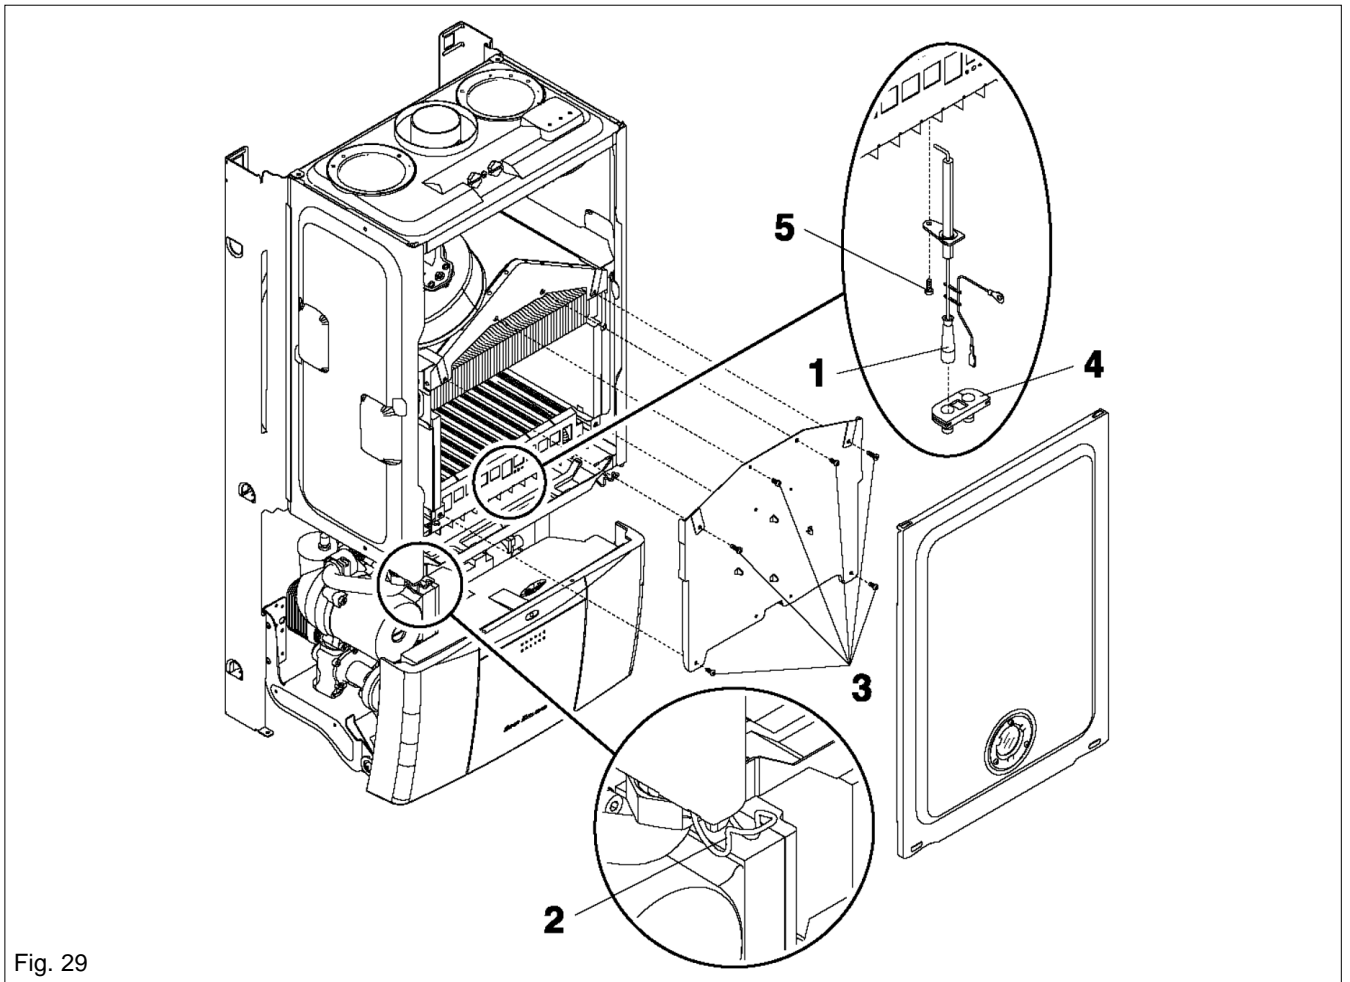

Fig. 29
FIG. 29, Locate and remove the four screws which secure the burner in position (1), gently ease the burner out of its location. Once the burner has been removed, the electrode retaining screw can be removed. Locate the burner injectors (2) and remove (if necessary). Replace in the reverse order. Please note, the injector sealing washers (3) must be replaced if the injectors have been removed, ensure all seals are in good condition, taking care to ensure they are replaced correctly.